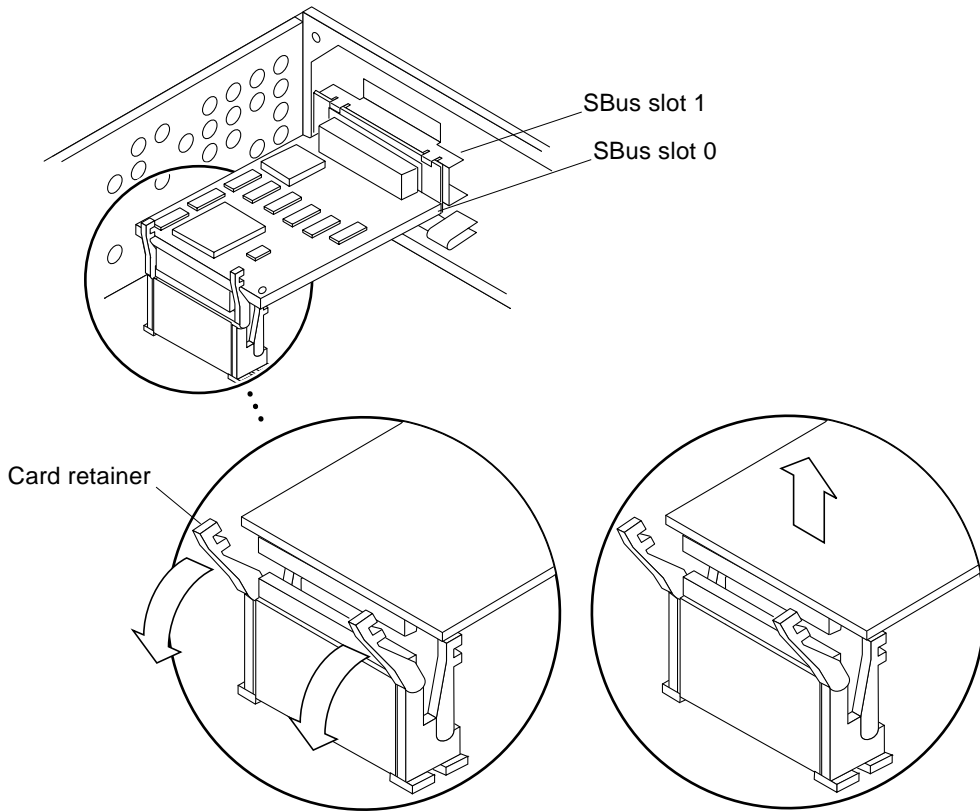

FIGURE 10-11 Removing an SBus Card from Slot 0 or 1
- If the SBus card is located in SBus slot 0 or 1, push the card retainers back from the edge of the SBus card. See FIGURE 10-11.